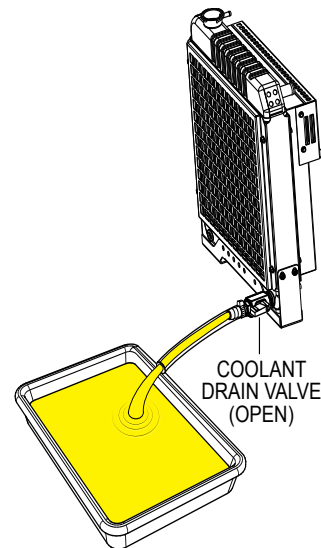

Figure 63. Draining Engine Coolant
1. Place the **coolant drain valve** in the **OPEN** position (Figure 63) and allow the coolant to drain into a suitable container.